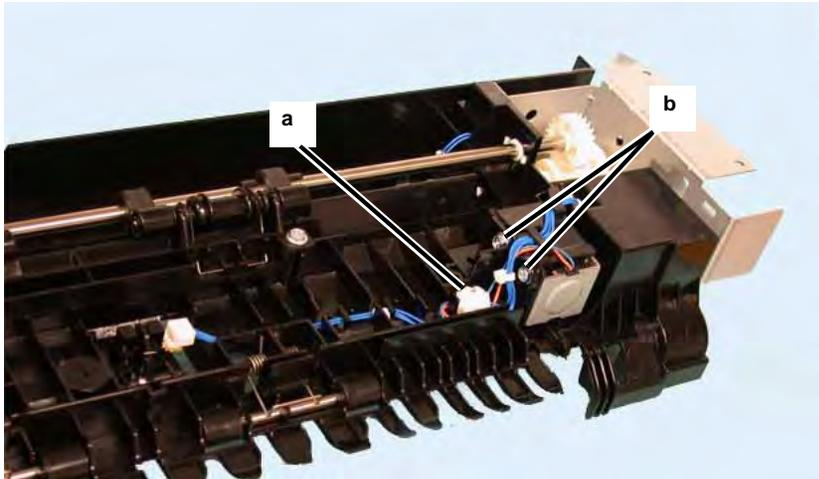

Figure 3 Removing Screws
5. Exit Gate Solenoid removal (Figure 3).
- a. Disconnect the connector (1).
- b. Remove the Screws (2), and the solenoid.